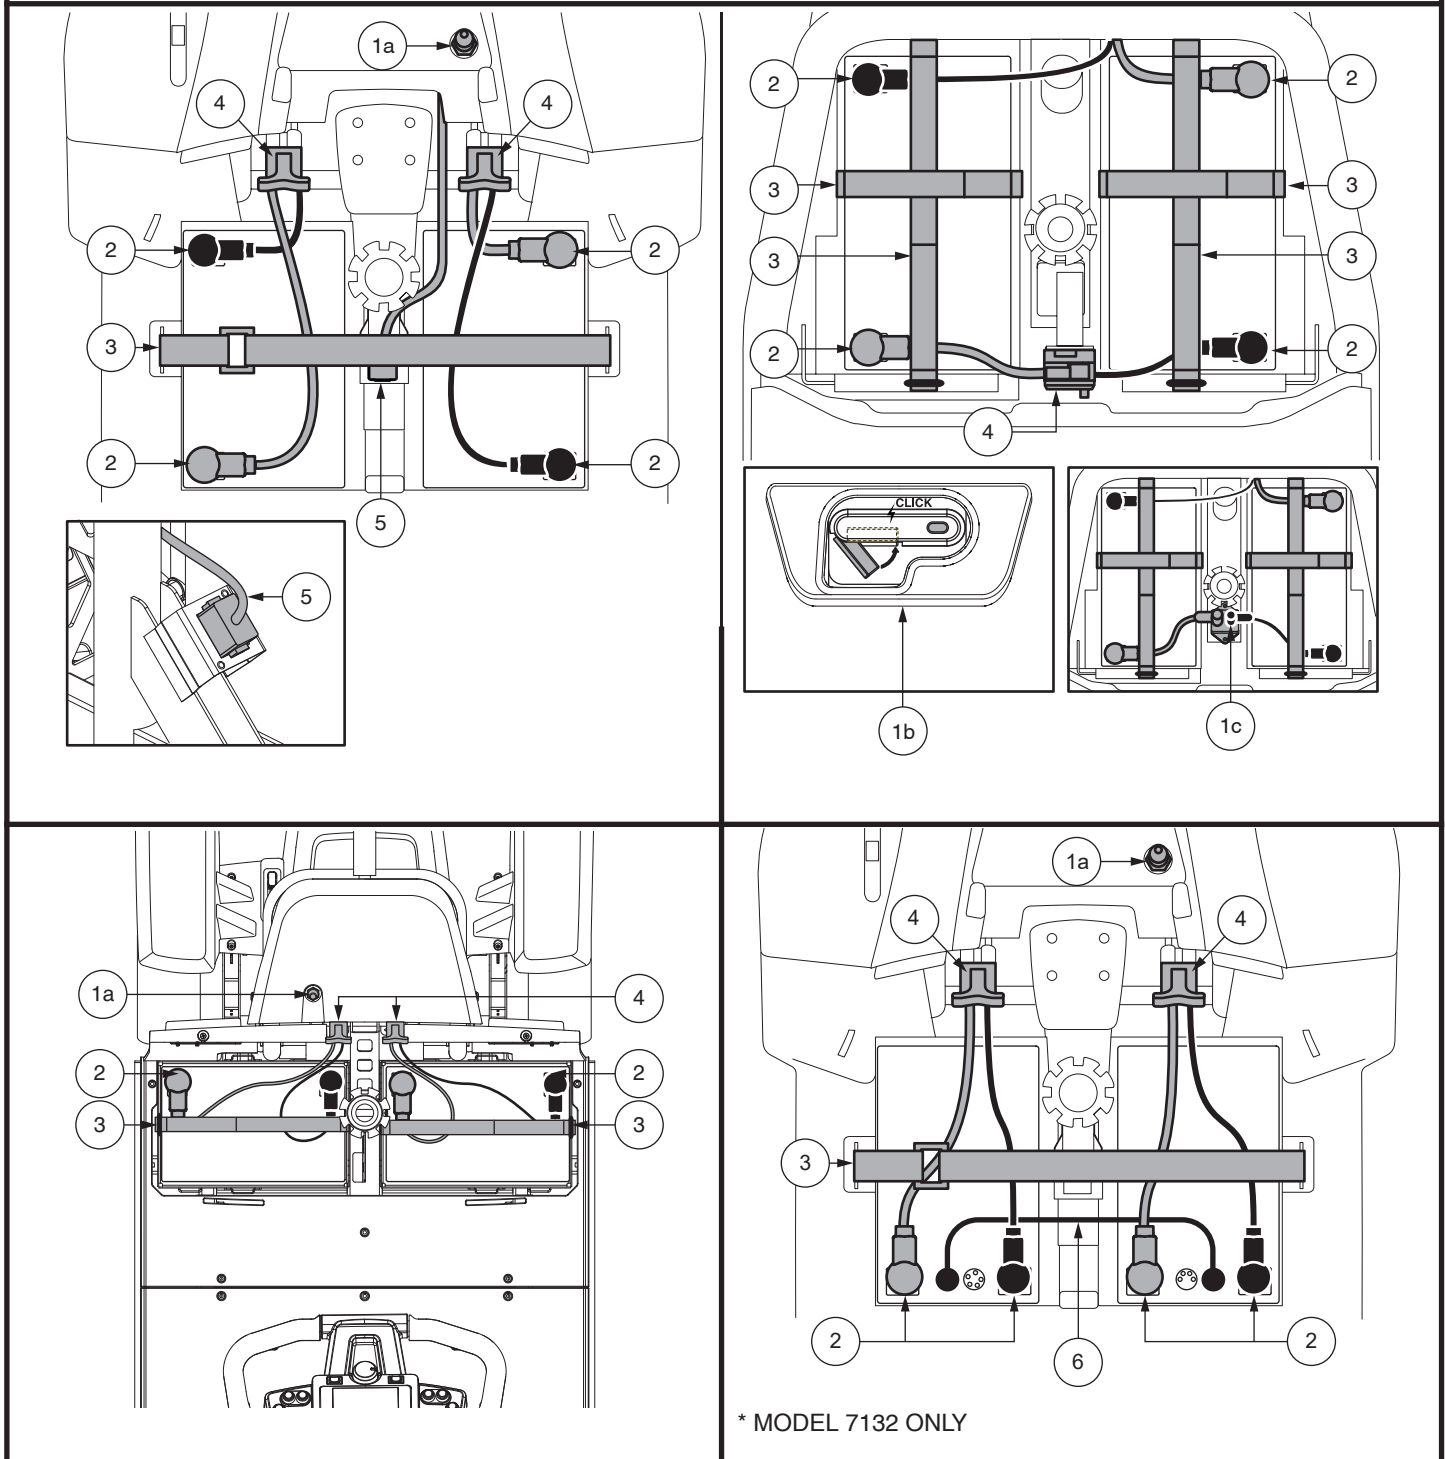

Figure 17. Battery Removal/Installation Terminals and Connections
3. For all models EXCEPT 614 and 714, disconnect the front-to-rear harness. Unplug both battery harnesses by pulling each harness out of its mating plug. See figure 17.
6. Place a new battery in each battery well. Face the battery terminals of each battery away from the seat post with the positive (+) and negative (-) battery terminals positioned as shown in figure 17.
**NOTE:** Models 614 and 714 use battery straps to secure batteries in the battery wells. Please refer to figure 17 for battery strap installing procedures.